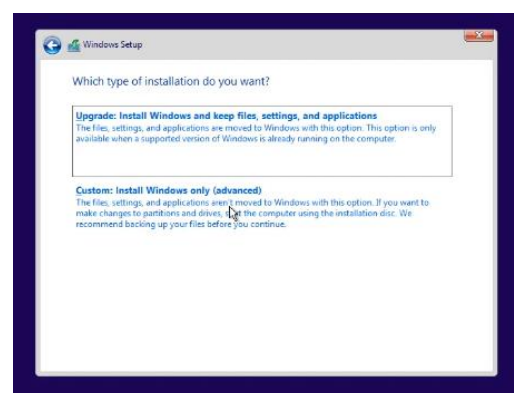

FIGURE 83: TESTOUT CORP. (2020, JANUARY 14). TESTOUT PC PRO (SECTION 10.3.4). RETRIEVED FROM [HTTP://WWW.TESTOUT.COM](http://www.testout.com)
11.3.5. (See Fig. 83) On the next screen, you will be asked about which installation type you want: Upgrade or Custom. Since this is a clean install on a new and empty HDD, click “Custom: Install Windows Only (advanced)”.